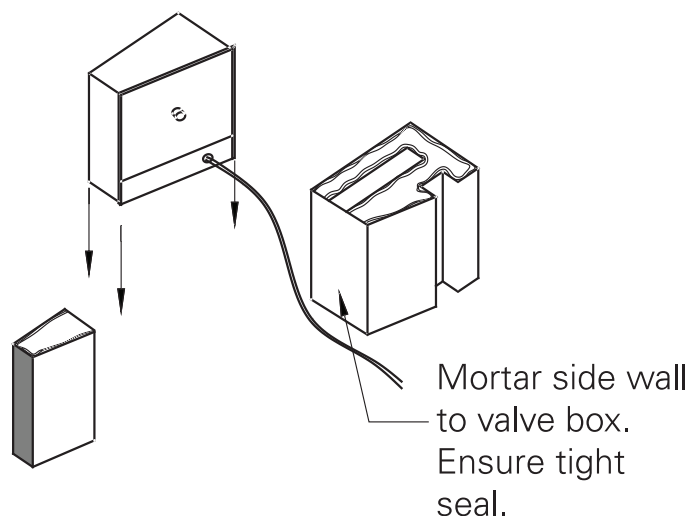

FIGURE 22
4. Replace twelve inch (12") section of side wall with valve box to log set. Door of valve box should face interior of fireplace. **(Figure 22)**